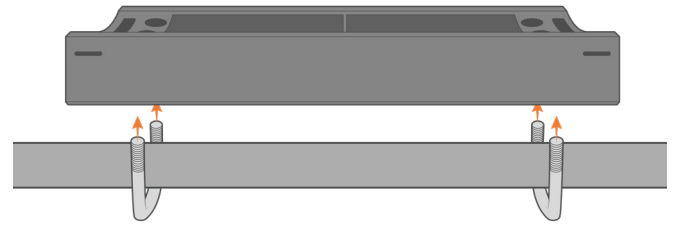

Figure 2: Mount the U-bolts and CM-500 clamp.
- 1 Place the U-bolts onto a side of the instrument cage (Figure 2).